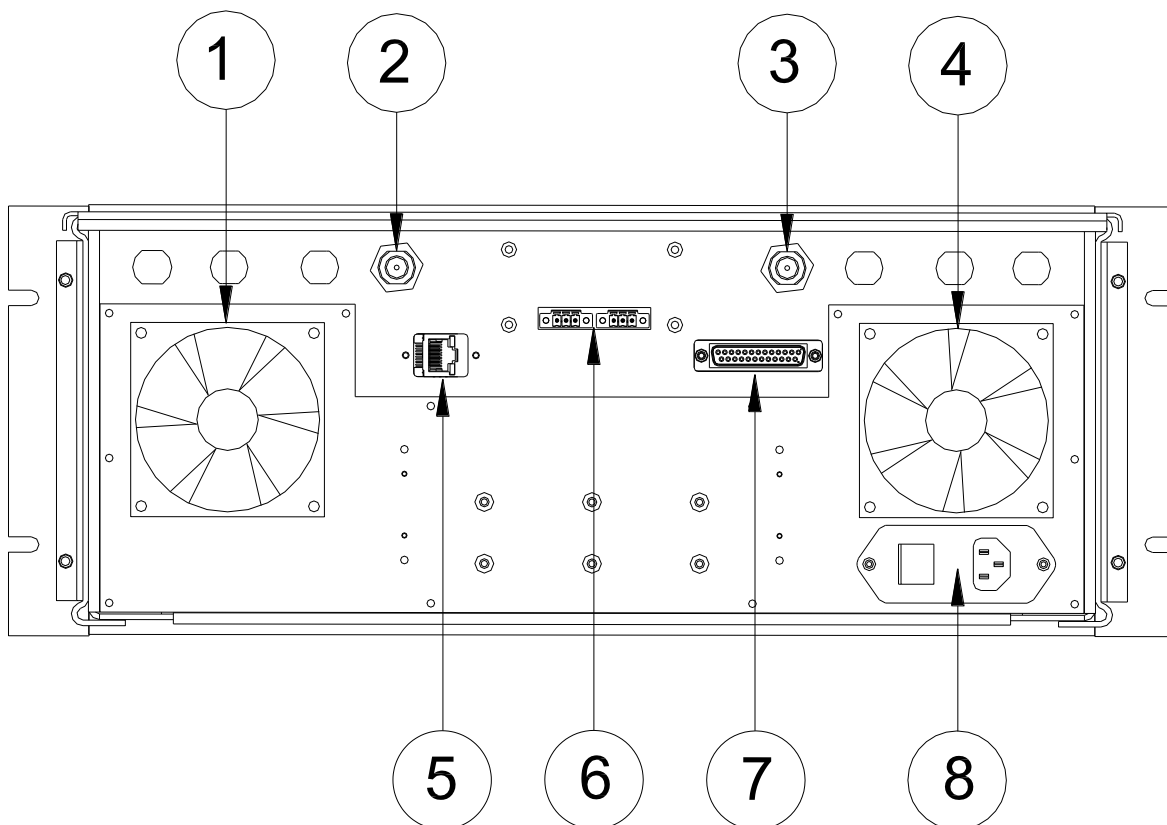

Figure 2 - Rear Panel details.
Figure 2 shows the connectors and visual status that the D.U.T rear panel has. Table 2 contains a brief explanation.
1. Use an Ethernet crossover cable for connect equipment directly to a PC computer LAN port (refer to Item #5 in Figure 2).
1. Use a coaxial cable to connect the test instrument input to D.U.T. RF OUT Port (refer to Item #4 in Figure 2).
2. Use a coaxial cable to connect the RF generator output to D.U.T. RF IN Port (refer to Item #1 in Figure 2).